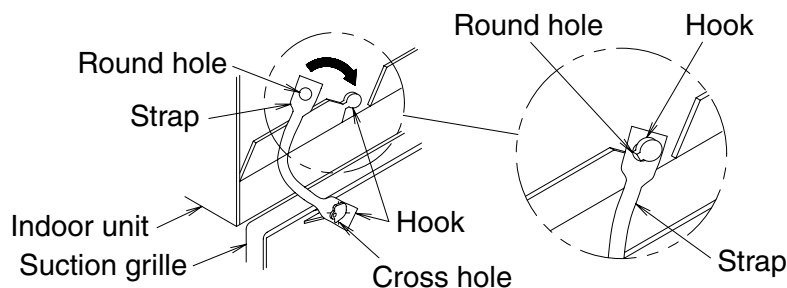

Fig. 38
- When installing the suction grille, hang the string of the suction grille to the hanging part of the indoor unit shown **Fig. 38**.